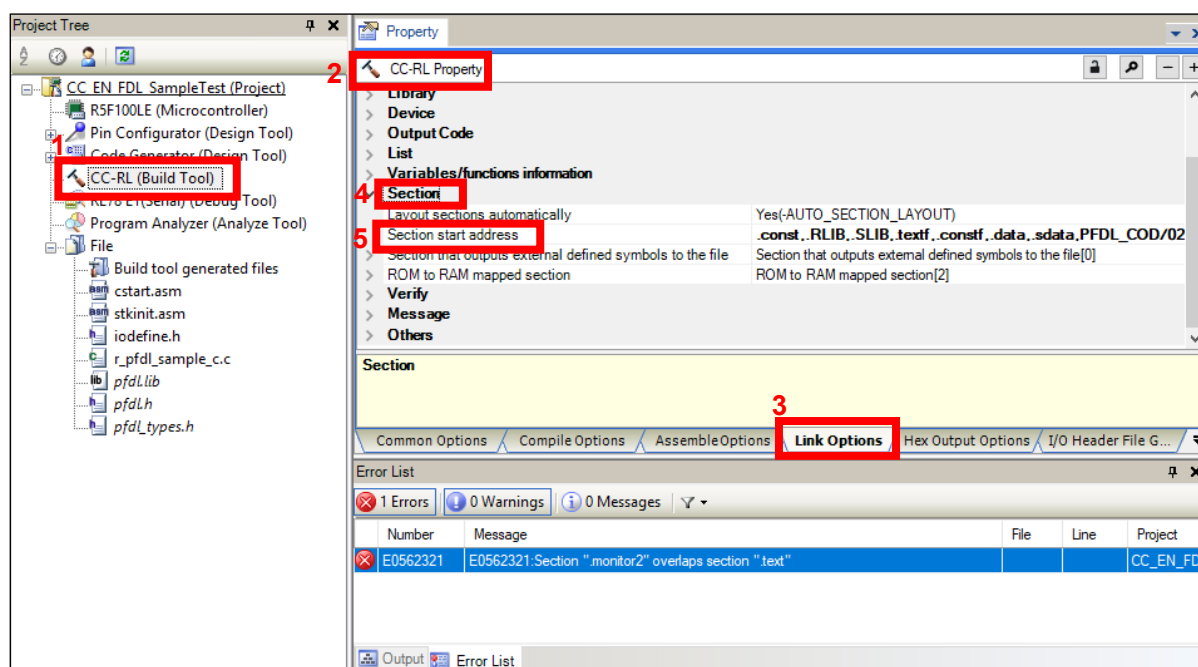

Figure 6-25. Modifying the Section Allocation
This error occurs when the section for the monitor area (OCDROM) used by the on-chip debugging function cannot be allocated. Therefore, to avoid this error, right click the CC-RL (Build Tool) node (1) in the CS+ Project Tree window, select Property to open the CC-RL Property panel (2), and select the Link Options tab (3). In the Section category (4), modify the setting for Section start address (5) so that no other areas overlap the area where the section for the on-chip debugger monitor is allocated (monitor2: the initial address range is 0xFE00 to 0xFFFF in R5F100LE). (See Figure 6-25)